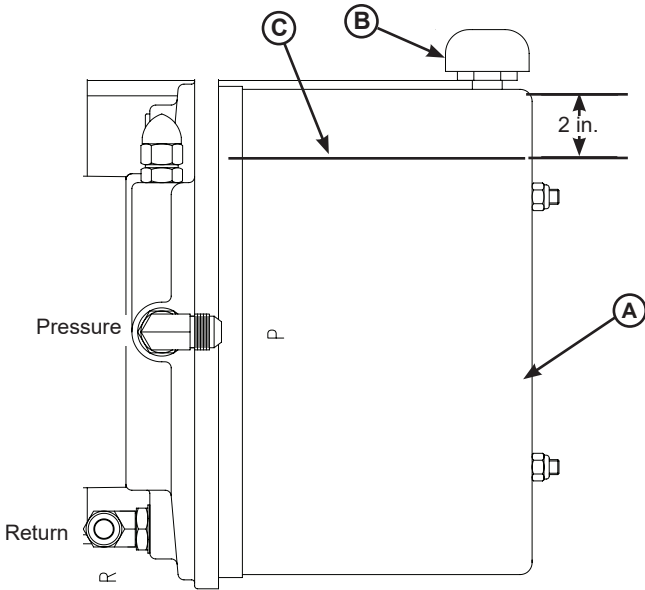

Figure 32
4. Remove breather cap (B). See **Figure 32**.
5. Measure fluid level. The fluid level should be approximately 2 in. (51 mm) from top of reservoir (C) with platform stored and the lip in the folded position.
7. Install breather cap (B).